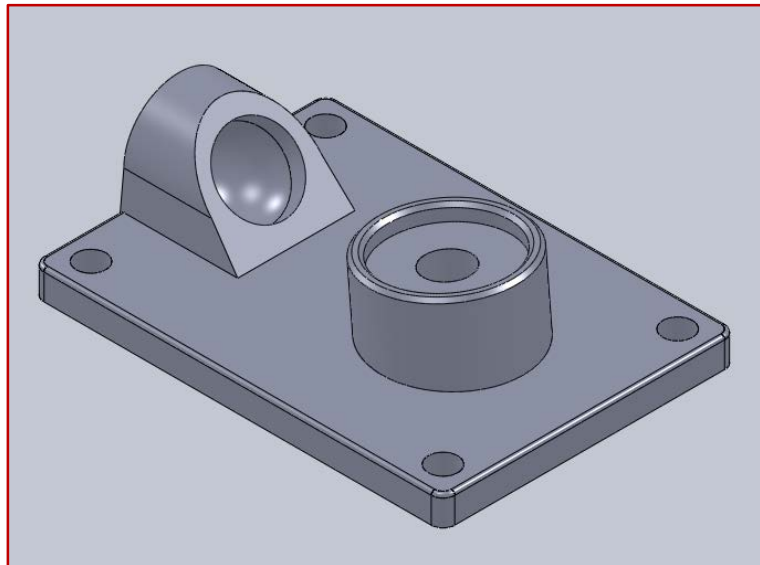

Figure 8.14 – Truck Base Model
Step 72: Use the **Fillet** command to create the 1/8 inch rounded corners on the base and a 0.03 inch chamfer around the top surface of the base. The edge of the seat for the bottom spacer are also chamfered 0.03 inch. See Figure 8.14.